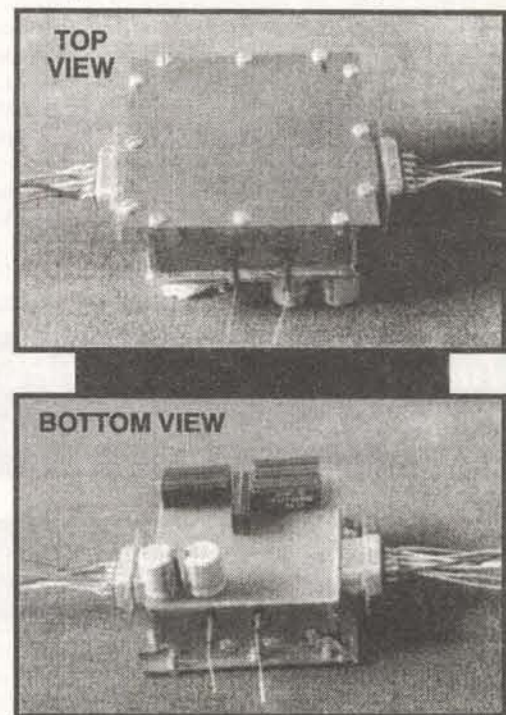

FIGURE 17
4) This completes the calibration. Power the unit down, and remove it from the test set-up. Replace the cover and install all the #2 screws. Your MAX MOD is now ready for use. Figure 17 shows the MAX MOD top and bottom views with connecting control cables.